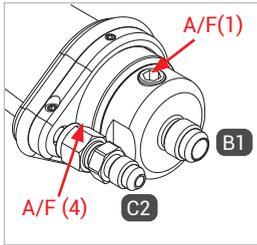
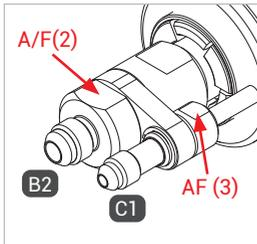

Figure 1
Figure 2
- ▶ When mounting the filling and venting hose, the media line and the gas recirculation onto connections "B1", "B2", "C1" and "C2", hold an open-end wrench against the wrench flats A/F(1), A/F(2), A/F(3) and A/F(4) (Figure 1 and Figure 2).
- ▶ Connect the media inlet "B1" to the filling hose of the fueling station (Figure 1) pressure-tight.
- ▶ Connect the gas recirculation "C2", if provided, to the venting hose of the fueling station (Figure 1) pressure-tight.
- ▶ Screw the media outlet "B2" pressure-tight onto the connection port of the filling hose (Figure 2).
- ▶ Screw the gas recirculation "C2", if provided, onto the connection port of the venting hose (Figure 2) pressure-tight.